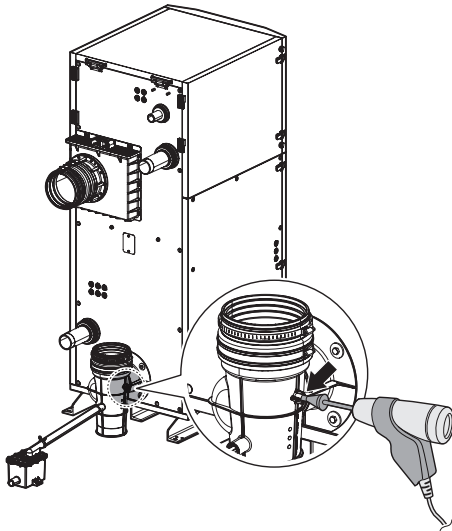

Figure 9. Insert the Analyzer
- a. Loosen the screw, rotate the plate and remove the gasket to access the emissions monitoring port as shown in Figure 9.
- b. Insert the analyzer into the port as shown in Figure 9.